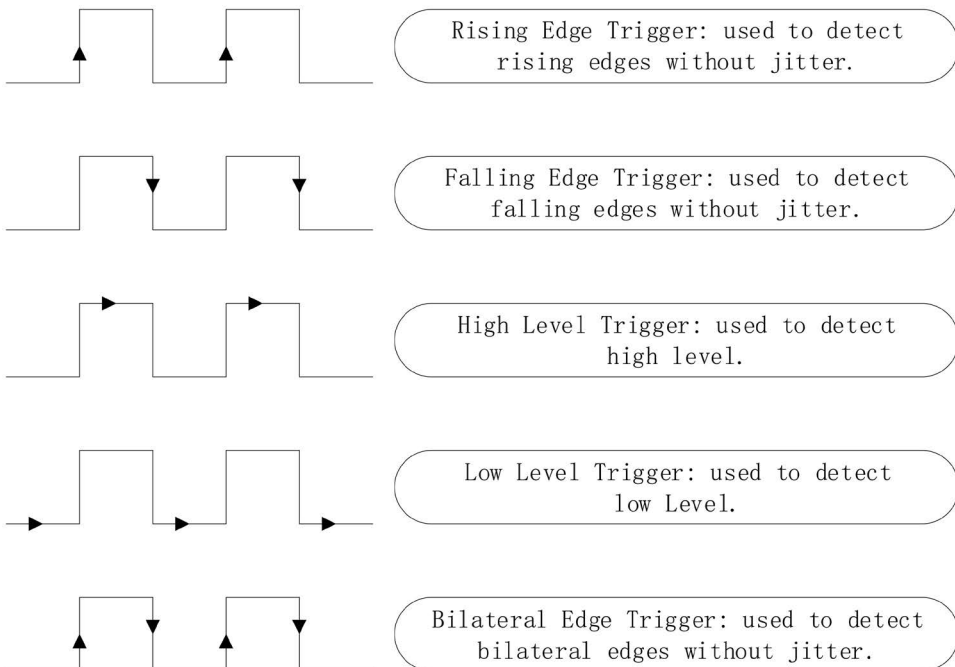

FIGURE 14.4 PIN device interrupt trigger modes.
- Interrupt triggering mode (as shown in Figure 14.4) configuration.